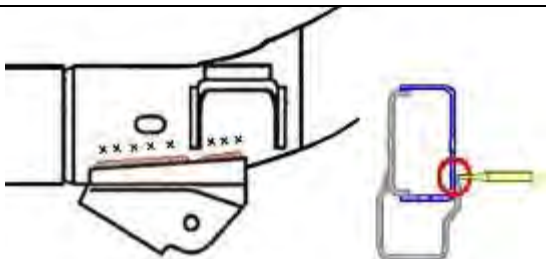

Figure 2 – Step 3 Hammering Locations
3. Using a 3/16” flat punch and a 12-16 oz. hammer, hammer on the locations identified with an “X” in Figure 2. Swing the hammer 10 to 12 inches to be sure enough force is applied to the punch. If no hole is created, apply Noxudol 700 and Noxudol 300 (Go to “Condition Two: Apply Noxudol 700 and Noxudol 300” in this bulletin). If, however, the flat punch creates a hole in any one location, go to the next step.